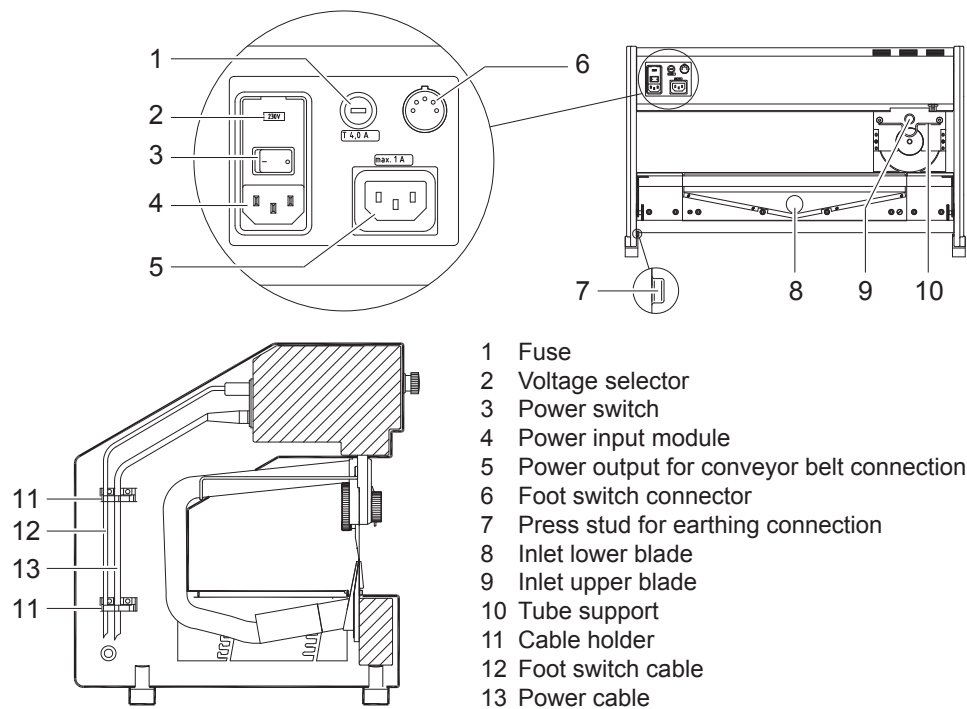

Fig. 4 Connections
► Attach the power cable (13) and the cable (12) from the foot-switch using the cable holders (11) on the inner side of the machine frame.
- Put the Y-piece (5 / fig. 3) on the inlet (8 / fig. 4) on the lower blade.
- Connect the side junction of the Y-piece to the inlet (9 / fig. 4) on the upper blade using the suction tube (6 / fig. 3). Insert the suction tube into the support (10 / fig. 4).